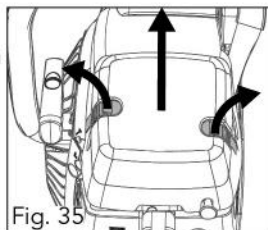

Fig. 35
1. Remove the filter cover clips (17) and remove the filter cover (5) (fig. 35).